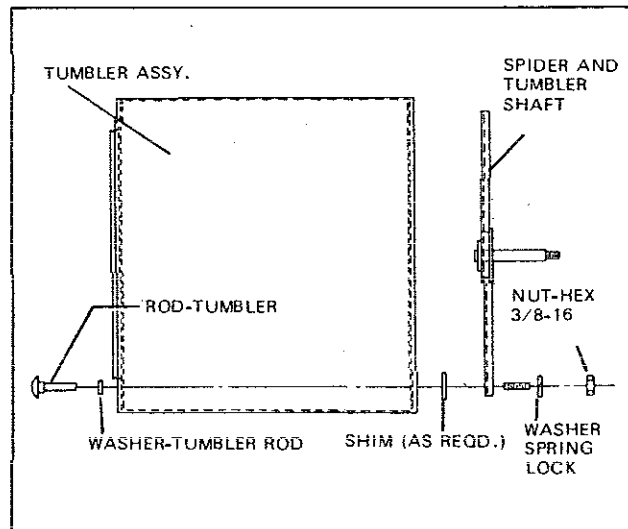

Figure 3-11. Tumbler Assembly
3. From the front of the machine, remove the cylinder and spider assembly. (Refer figure 3-11).